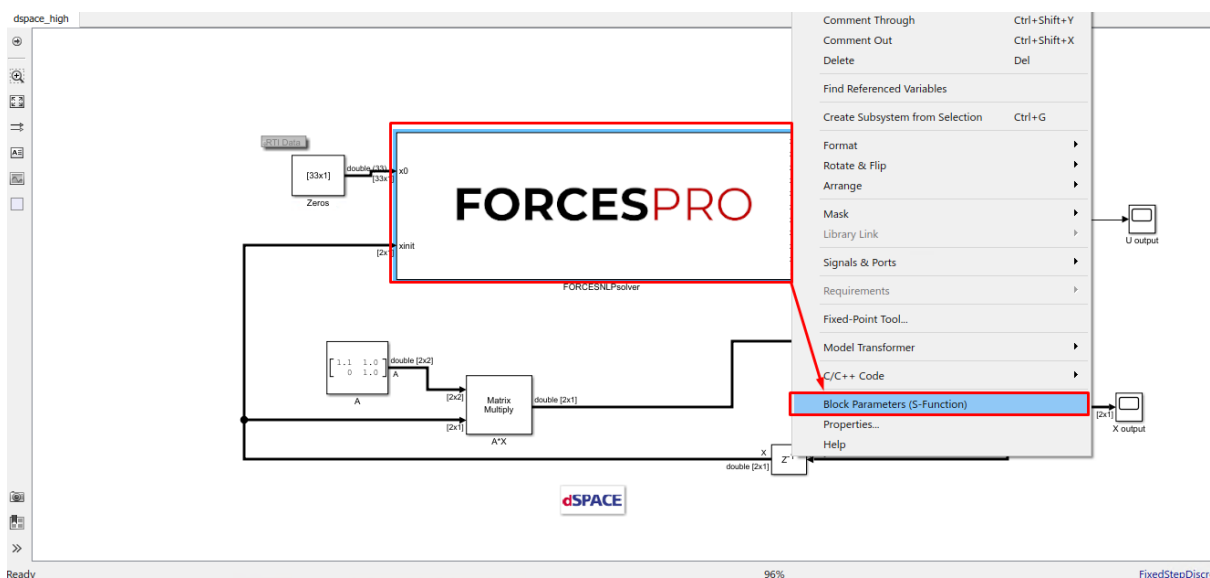

Figure 13.13: Open the FORCESPRO block's parameters.
13. (Figure 13.13) Access the FORCESPRO block's parameters.